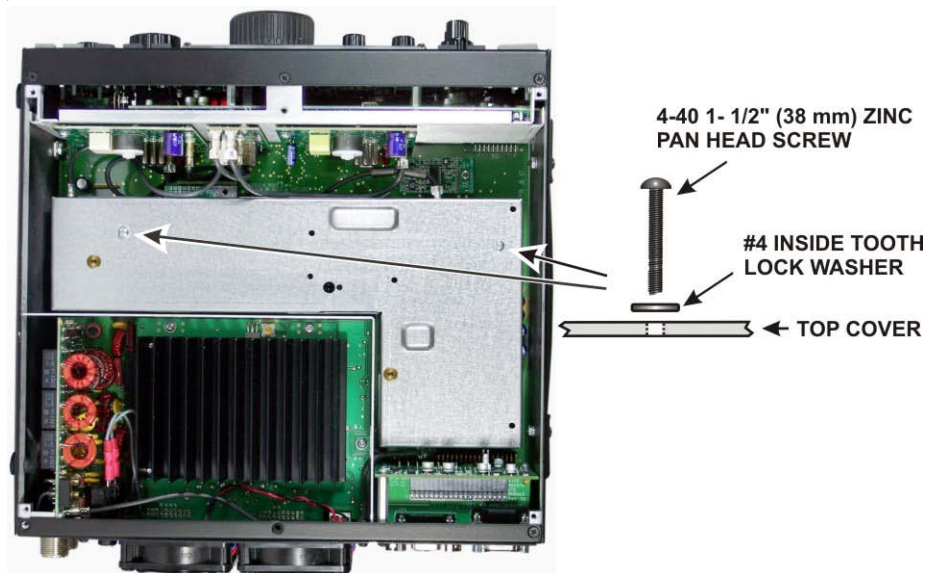

Figure 3. Removing the KRX3A or KRX3 Module.
If you do not have the sub receiver installed, go directly to *Removing the Bottom Covers and KIO3A/KIO3 Board* on page 9. The sub receiver module is the “L” shaped metal enclosure (see Figure 3). Remove the sub receiver module as follows:
- ☐ Remove the two 1-1/2” (38 mm) screws and lock washers shown in Figure 3. These screws extend all the way through the sub receiver module and secure it to standoffs mounted on the main RF board that fills the bottom of the K3.